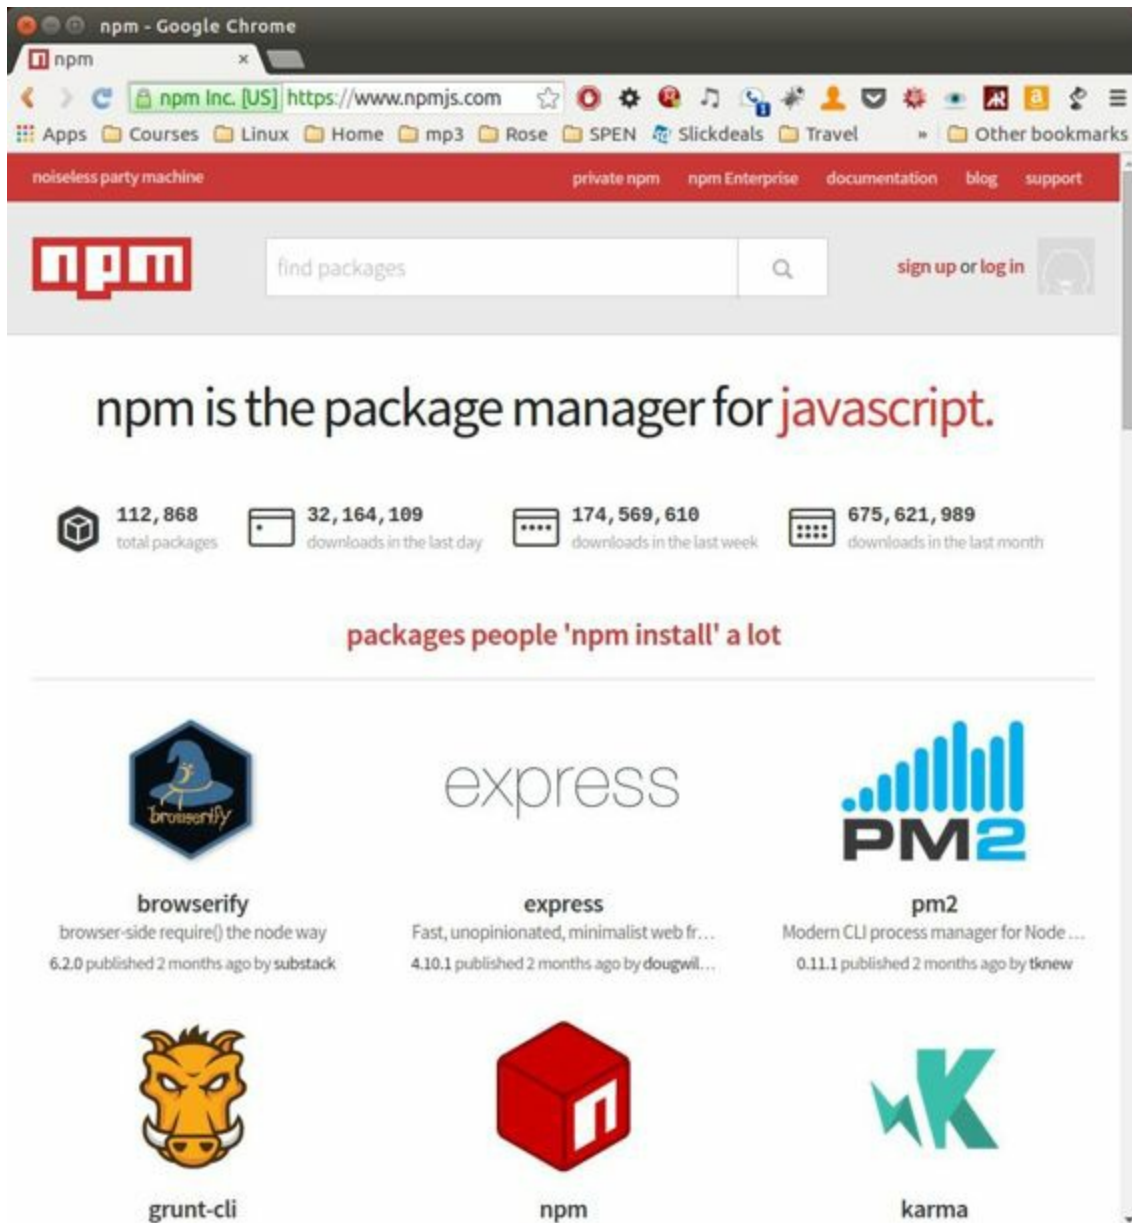

Figure 5-17. The Node Package Manager website
**Node.js** is a platform built on **Chrome's JavaScript runtime**. It's what runs the JavaScript we have been using. More than 112,000 packages have been written for Node.js and are available using **npm**. Visit the **npm site** (Figure 5-17) to see what's available.